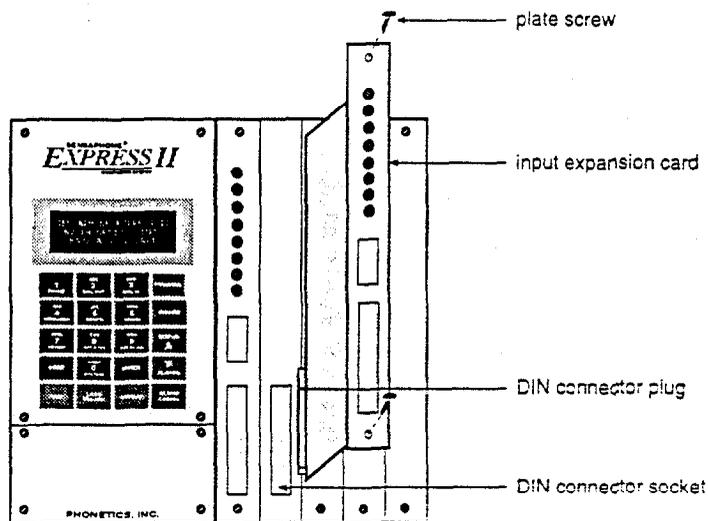

Figure 10: Line up and insert card
3. Hold the card with the LED's at the top, and line up the DIN connector plug on the card with the DIN connector socket on the motherboard. See Figure 10.